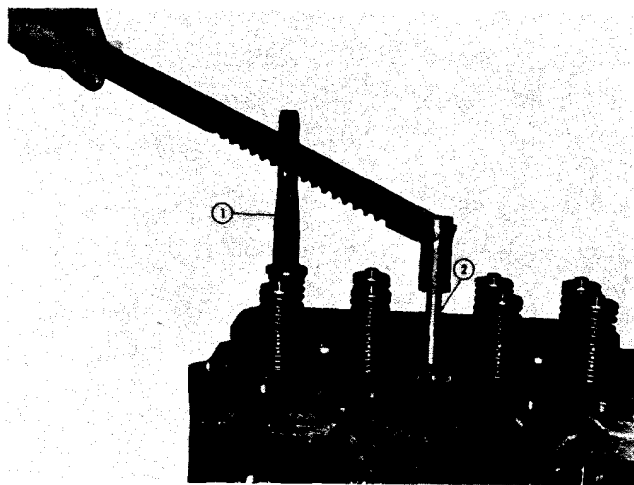

Fig. 2-2, (N10276). Compression valve spring with ST-448
3. Remove valves and springs. Use ST-448 Valve Spring Compressor (1, Fig. 2-2) to compress valve springs. ST-448 may be used at bench or on installed engine.
4. Screw stud (2) from ST-448 in rocker lever housing mounting capscrew hole.